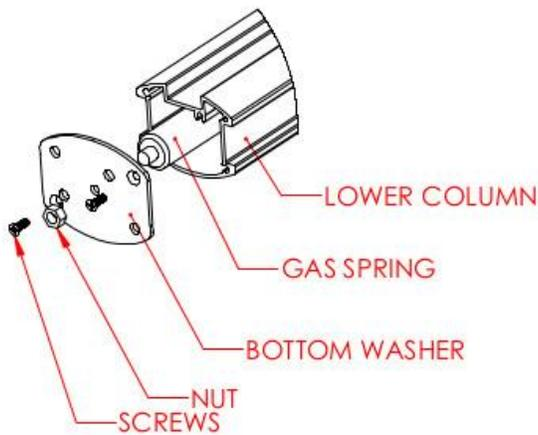

Figure 7
4.5 Remove the bottom washer. Remove nut & two screws in the bottom of the column's bottom washer. Unscrew the bottom washer from the gas spring. Pull the gas spring out of the column. (Figure 7).
- 4.6 Assemble bottom washer to the new gas spring by screwing the bottom washer onto the gas spring. Re-attach the nut onto the bottom washer/gas spring. (Figure 7).